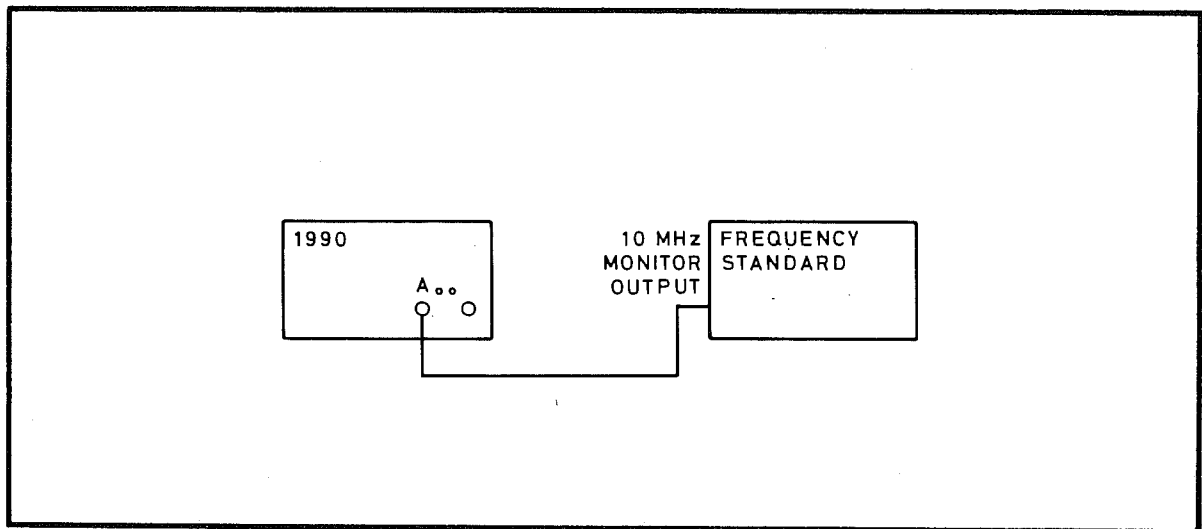

Fig 7.28 Connections for Internal Frequency Standard PVP: Standard Oscillator and TXCO Option
- 72 (1) Select 7 digit resolution on the 1990, and verify that 0000000 is displayed. Check that both trigger level controls are in the switched 0 V position
- (2) Connect the test equipment as shown in Fig 7.28.